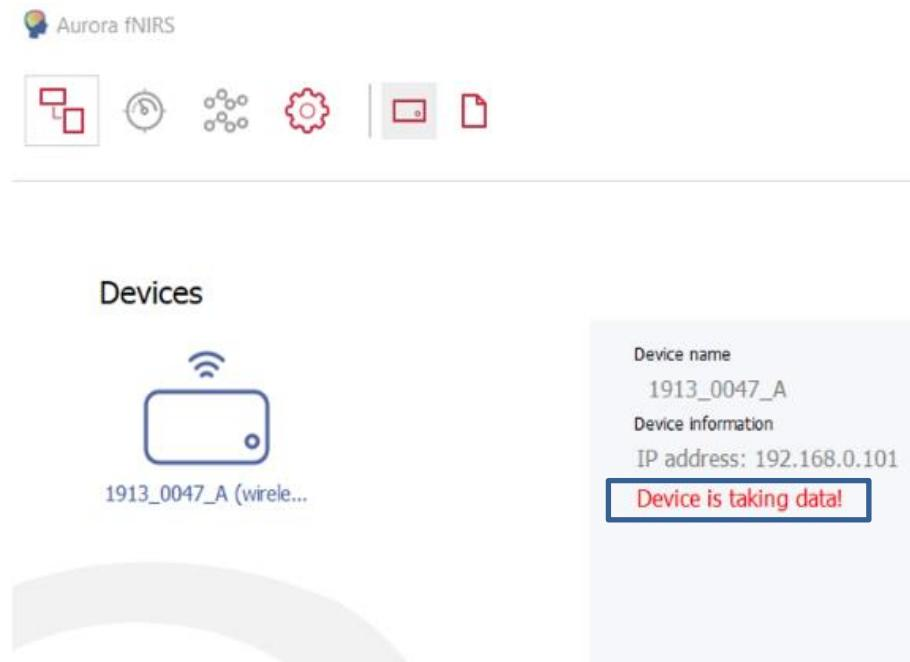

Figure 9.19: Device selection page, indicating that the device selected is recording in standalone mode.
Aurora will disconnect the device and return to the main page for device selection, as in Figure 9.19. In the right information panel, there will be a notification that the *Device is taking data!* meaning that it is recording in standalone mode.
- Your device should appear in the list, with the indication “Device is taking data!” as shown in Figure 9.19. Select the device and proceed.